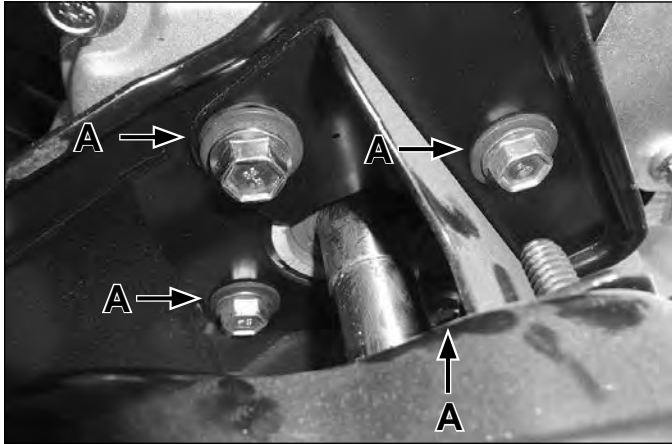

Fig. 019
1. Insert the engine into the chassis. Install the four engine mounting bolts that secure the engine to the engine plate (A). Torque to 14-18 ft-lbs (19-25 Nm) (Fig. 019).